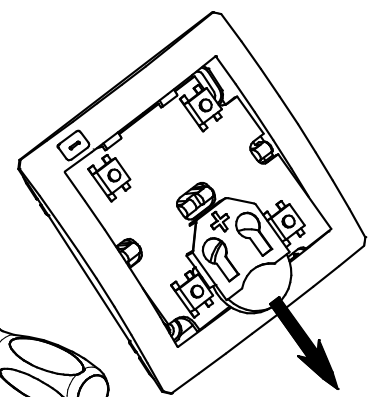

fig. 3
3. Remove the battery from the clamp (fig. 3).